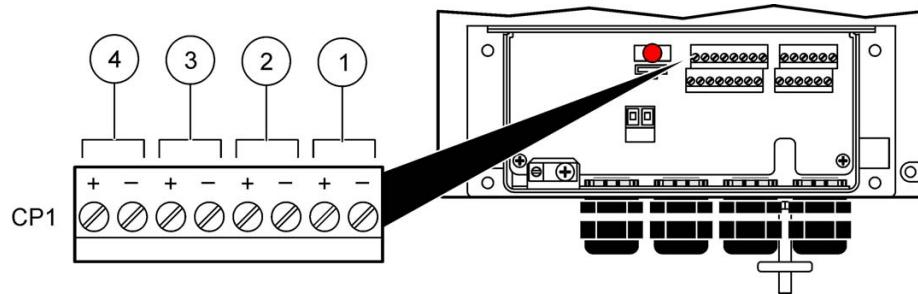

Figure 8 CP1 terminal block connections for 4-20 mA outputs
4. Insert the cable(s) through the strain relief fitting or conduit hub near the CP1 terminal block (Figure 8).